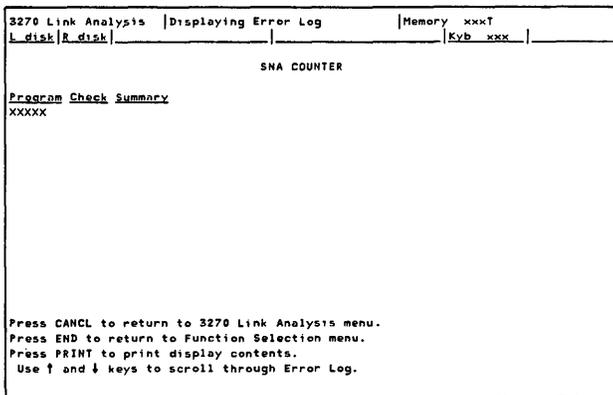

Figure 8-17. SNA COUNTER Frame
2. Operational Counters and Error Counters (see Figure 8-16 and Figure 8-17)
The SNA Counter (Figure 8-17) presents the data from the Record Formatted Maintenance Statistics (RECFMS) Type 2 Program Check Counter. The SNA counter is used to detect SNA protocol problems.